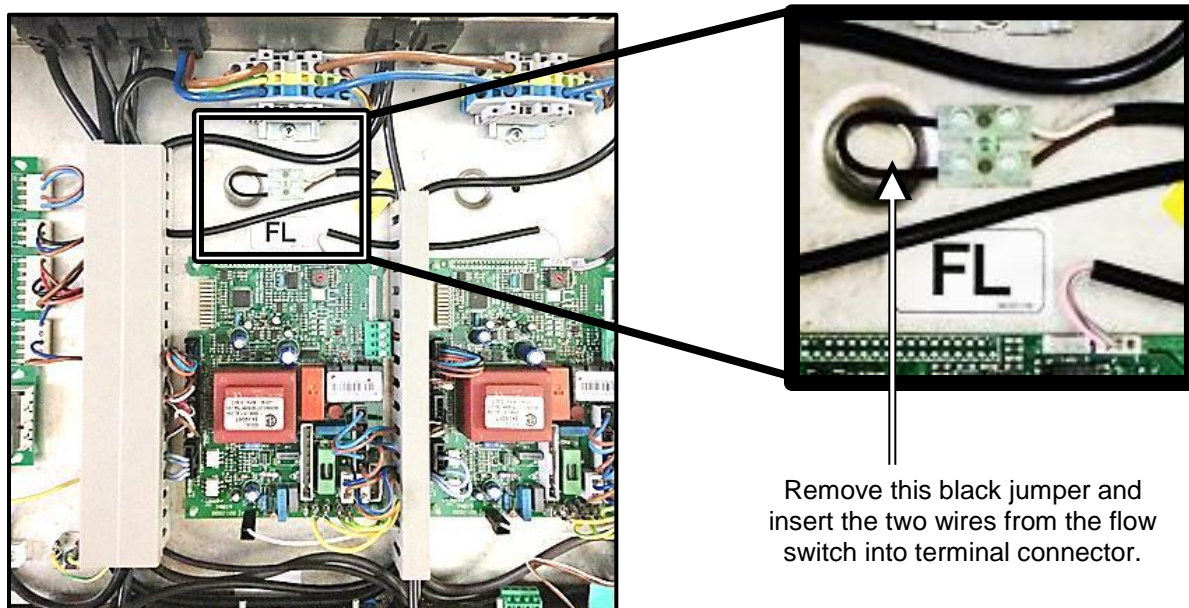

Figure 4-18: BMM Location and Flow Switch Connection
6. Locate the BMM, with the "FL" label, at the unit front (Figure 4-18) and remove the black jumper wire from the terminals of the connector, as shown in the detail in Figure 4-18. Connect the two flow switch wires to the two terminals. Flow switch wires have no polarity, so can be inserted without regard to position.